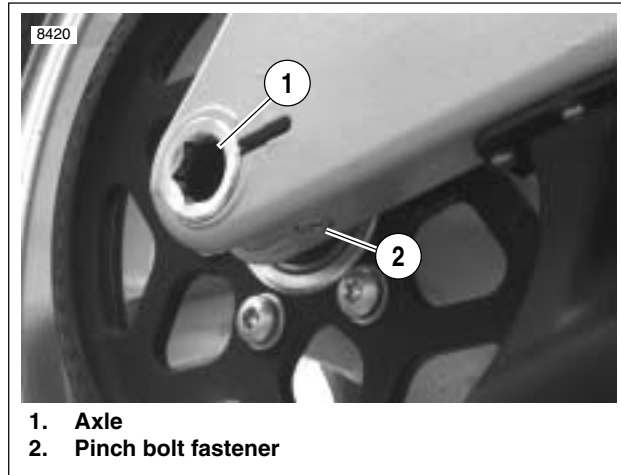

Figure 2-81. Rear Wheel Mounting, Right Side
2. See Figure 2-81. Loosen rear axle pinch fastener (2).
3. Loosen rear axle (1) approximately 15 rotations to allow partial tension to be removed from rear drive system.